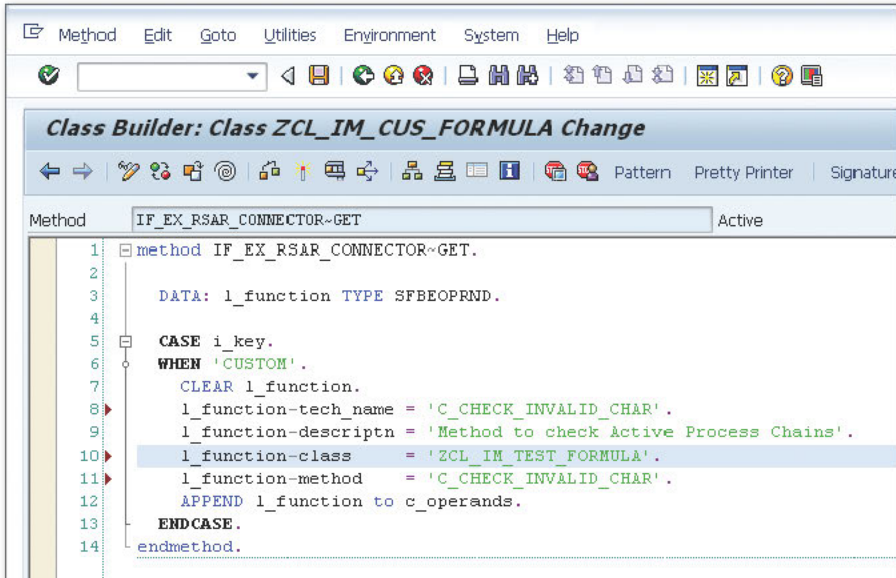

Figure 3 Code for the Class
4. Double-click on the GET method on the INTERFACE tab to incorporate your custom methods as formulas (see Figure 3).